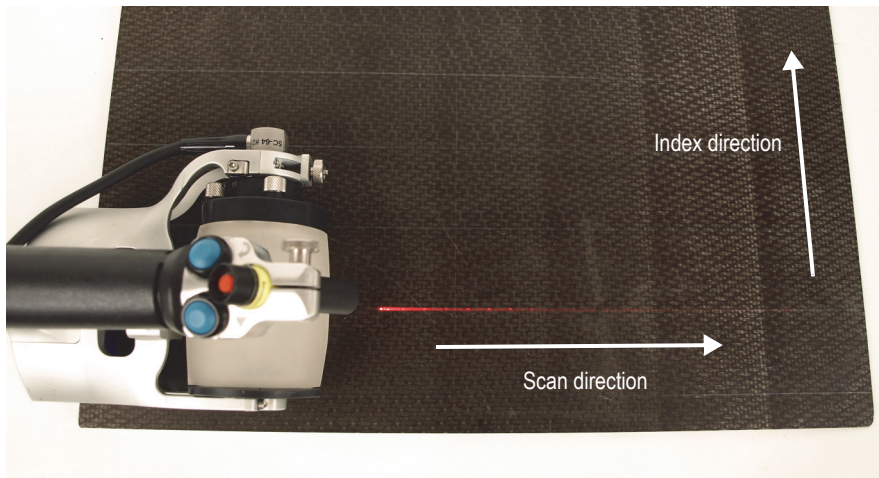

Figure 5-6 Positioning the RollerFORM on the next guide line
11. Return the RollerFORM to the start of the area to inspect, positioning it over the next guide line to the left. Using the laser beam, align the RollerFORM precisely with this guide line (Figure 5-6 on page 75).